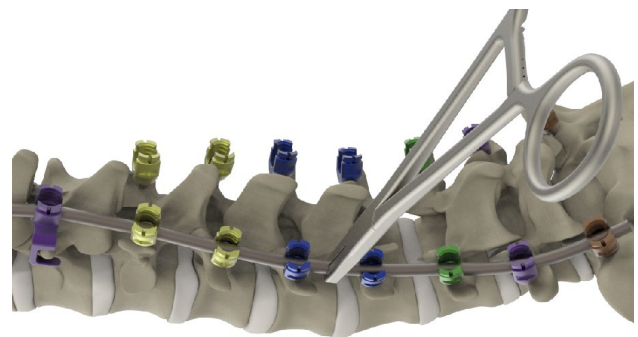

Fig. 8
- Utilize rod holders to place rod into the screw tulips (Fig 8).